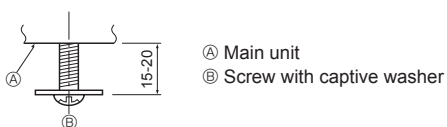

Fig. 6-5
6.4.1. Preparations (Fig. 6-5)
- Install the 2 enclosed screws with washer ② in the main unit (at the corner drain pipe area and at the opposite corner) as shown in the diagram.